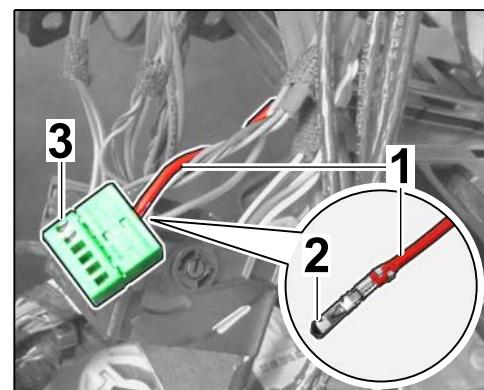

Figure 21
4.4.4 Crimp RD line \Rightarrow Figure 21 -1- from power supply wire harness and new socket contact \Rightarrow Figure 21 -2- together.
Close secondary lock \Rightarrow Figure 21 -3-.